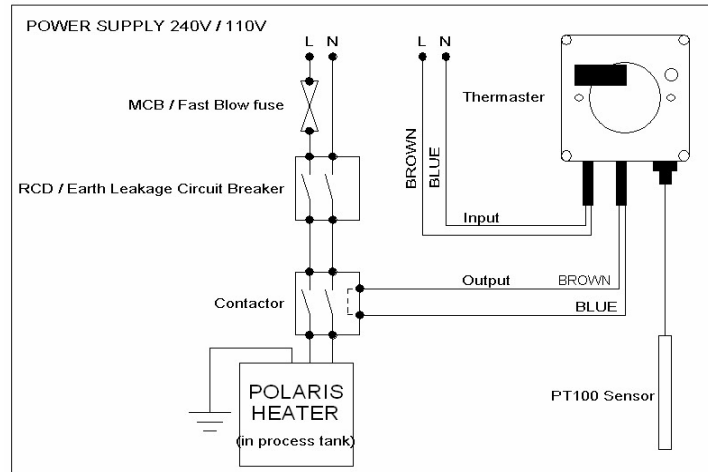

Fig 2 : Wiring diagram for Thermaster connected to Polaris heater
- The output relay of the controller is rated at 5 amps, however, it is recommended that any heater should be connected through a contactor as shown in Figs 2 and 3.
a. For application where no other controllers (such as level controllers) are connected, connect as in fig 2.